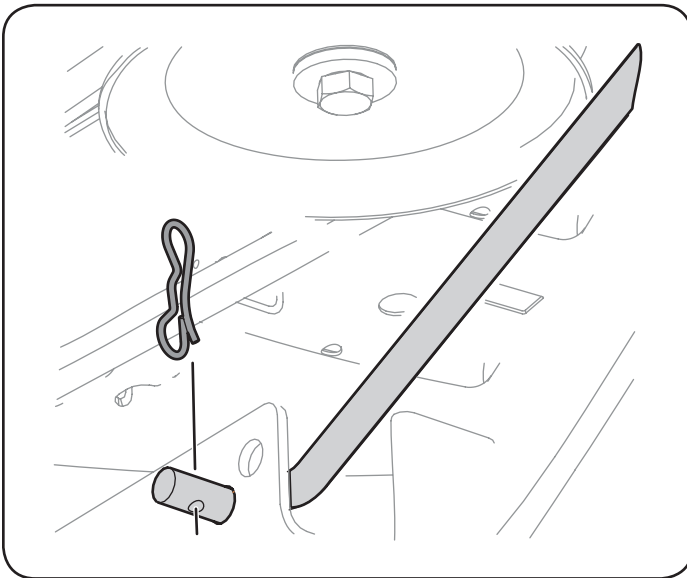

Figure 24
12. Pull the bow pin out of the front deck lift rod securing it to the deck. See Figure 24. Slide the deck lift rod out of the front hanger bracket.